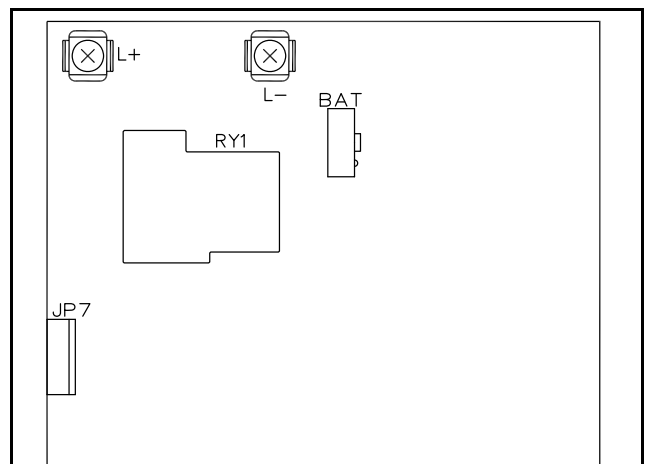

Figure 11
7. For unit with remote capacity, connect remote heads to terminal L+ and L- (see figure 11).